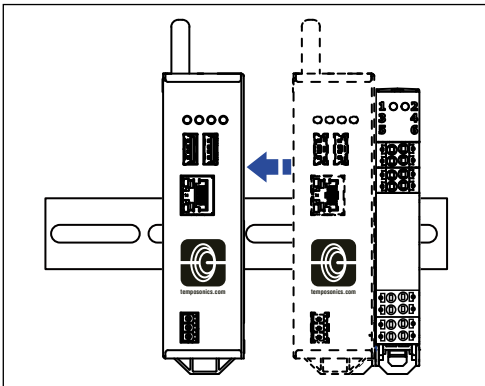

Fig. 8: Moving the TempoGate® gateway to the left to remove it from the 35 mm standard rail
2. Move the TempoGate® gateway to the left (Fig. 8).